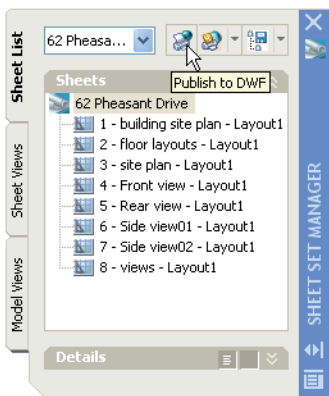
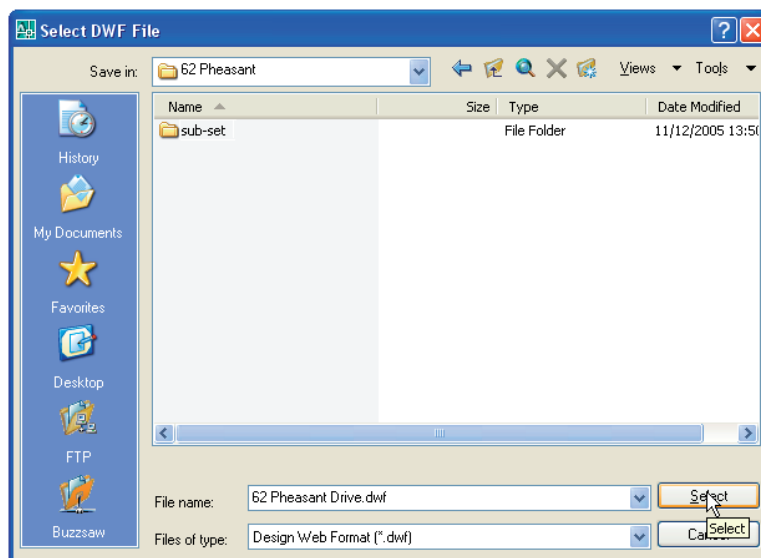

Fig. 11.9 The **Publish to DWF** icon in the **Sheet Set Manager**
Fig. 11.10 The **Select DWF File** dialog
1. In the **62 Pheasant Drive** Sheet Set Manager *click* the **Publish to DWF** icon (Fig. 11.9). The **Select DWF File** dialog appears (Fig. 11.10).